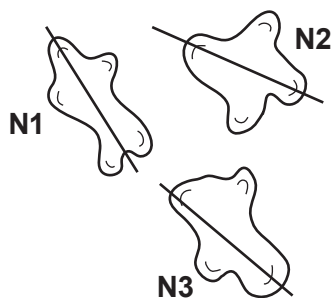

Fig. 2.2
The student used the microscope to observe and draw three starch grains to the same scale. The student drew a line across the length of each drawing of a starch grain. The student's drawings are shown in Fig. 2.2.
- (iii) Find the mean **image** length of the three starch grains drawn by the student, along the lines shown in Fig. 2.2.
- (iv) When viewed using the microscope, the student found that starch grain **N1** measured 4 eyepiece graticule units along the position of the line drawn in Fig. 2.2.
Use this information and your answer to (a)(iii) to calculate the mean **actual** length of the three starch grains in Fig. 2.2.